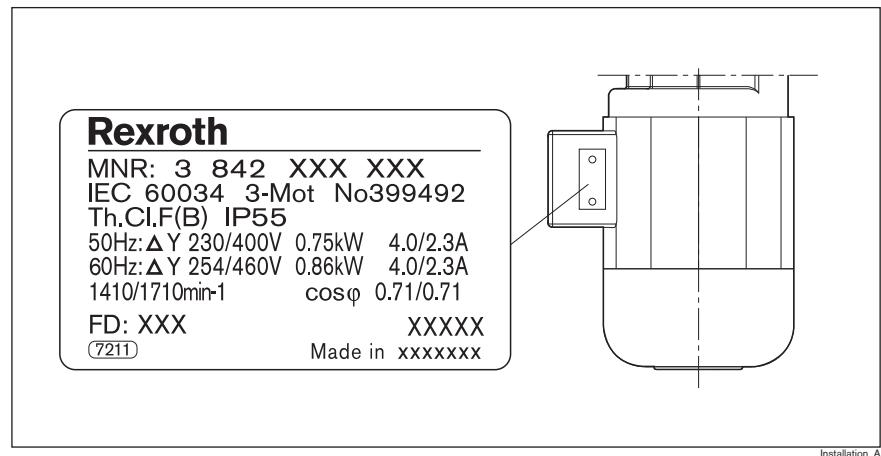

Fig. 8: Motor rating plate (example)
- Note the electrical connection parameters on the motor rating plate, see Fig. 8 on page 21.